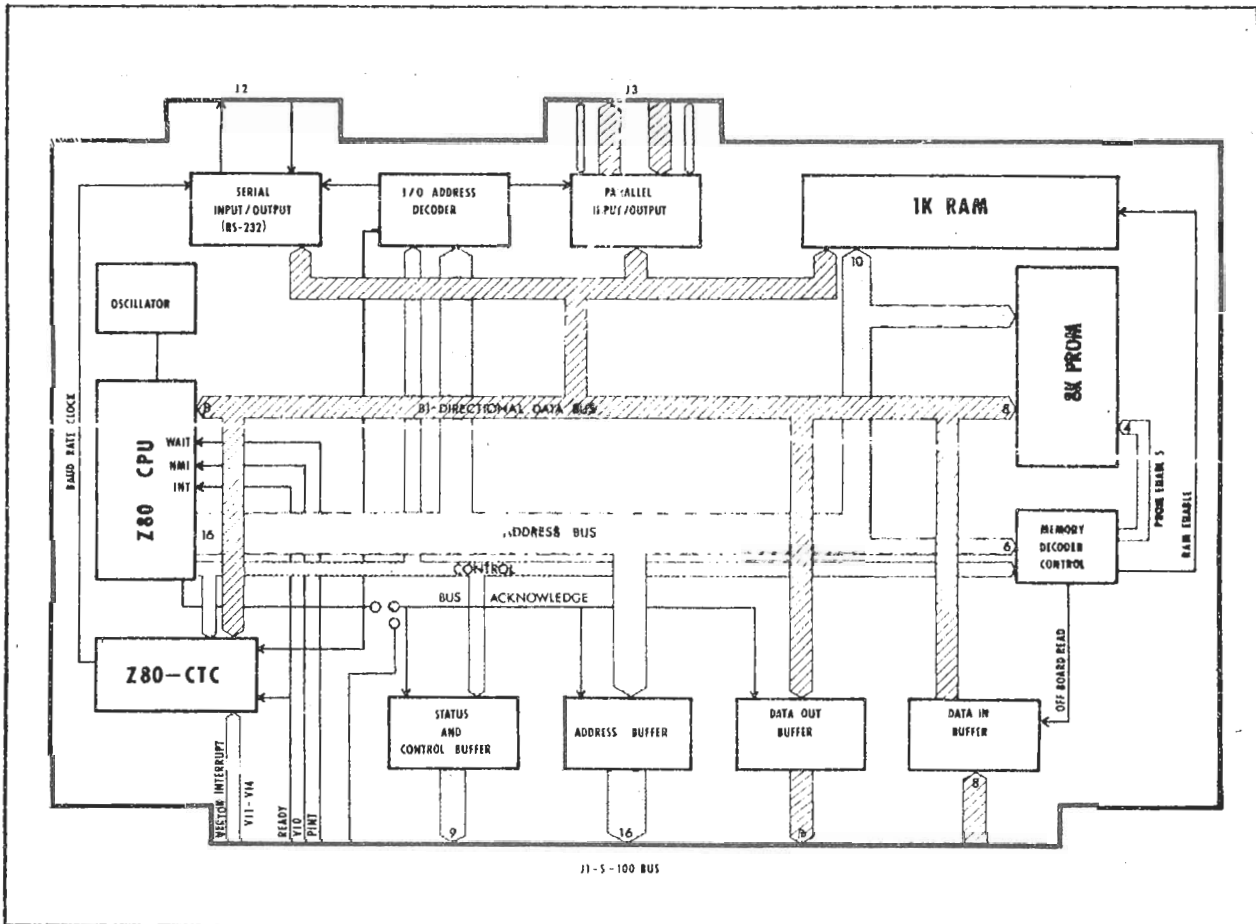

Figure 2-1. Single Board Computer SBC-200 Block Diagram.
- SCHEMATIC DIAGRAM (Figure 2-1)
The SBC-200 block diagram in Figure 2-1 shows the functions of the SBC-200 components. It is intended to illustrate the discussion of components and their functions in paragraphs 2.2.1 through 2.2.13.